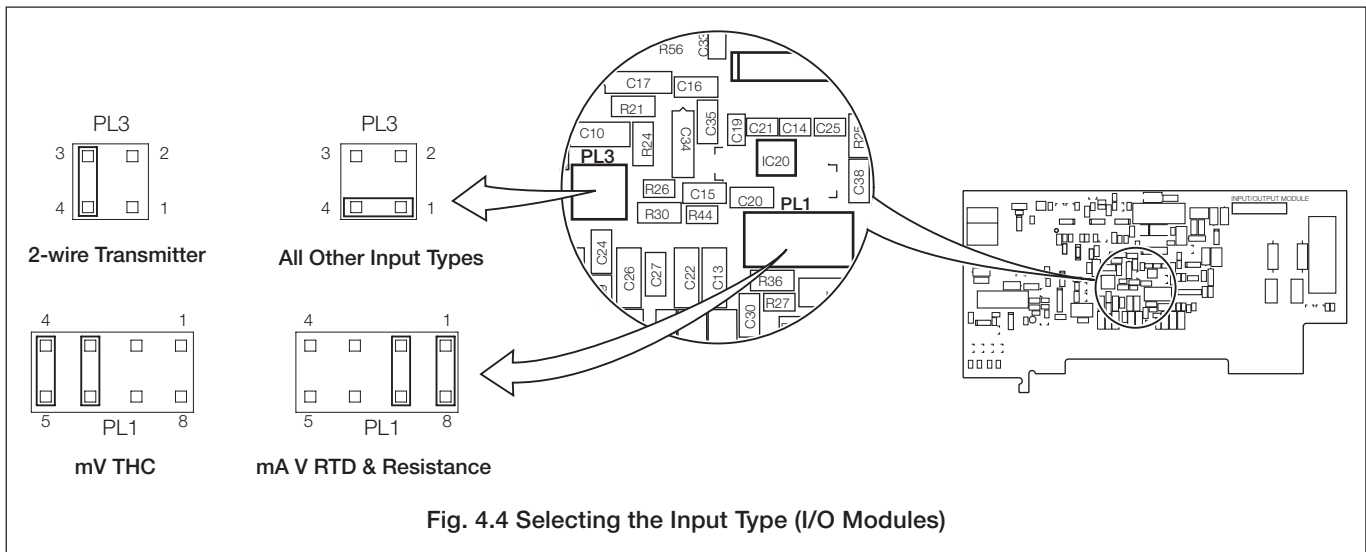

Fig. 4.4 Selecting the Input Type (I/O Modules)
- Channels 2 to 4** PL1 & PL3 on the module (Fig. 4.4)